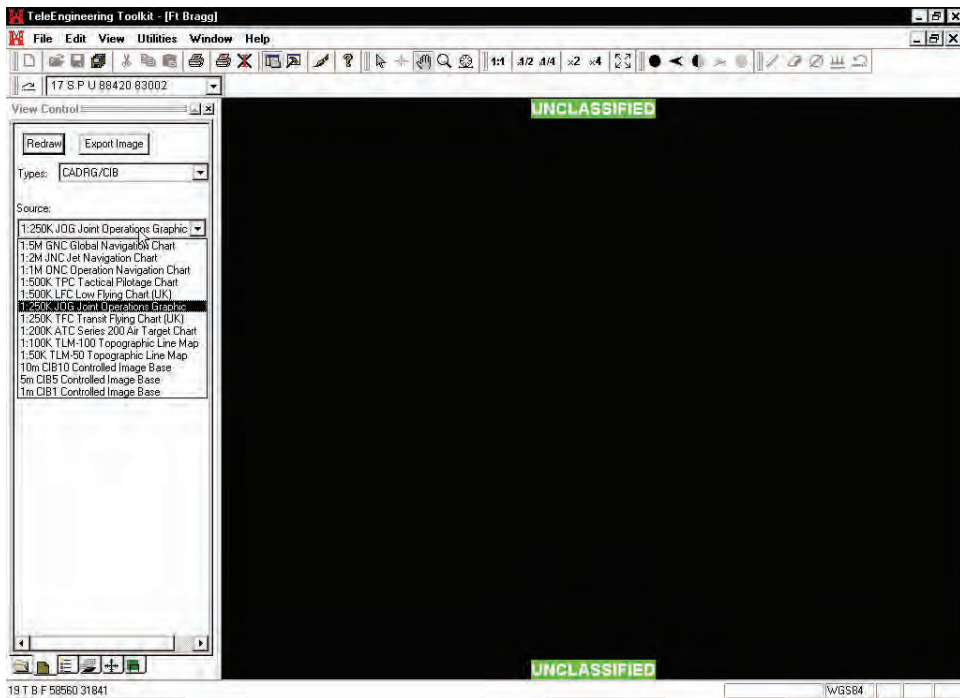

Figure 39. Displaying a map
5. From the “Source” menu, select the desired scale. For most recon missions, use CIB 1 or CIB 5 (or similar). See Figure 39.